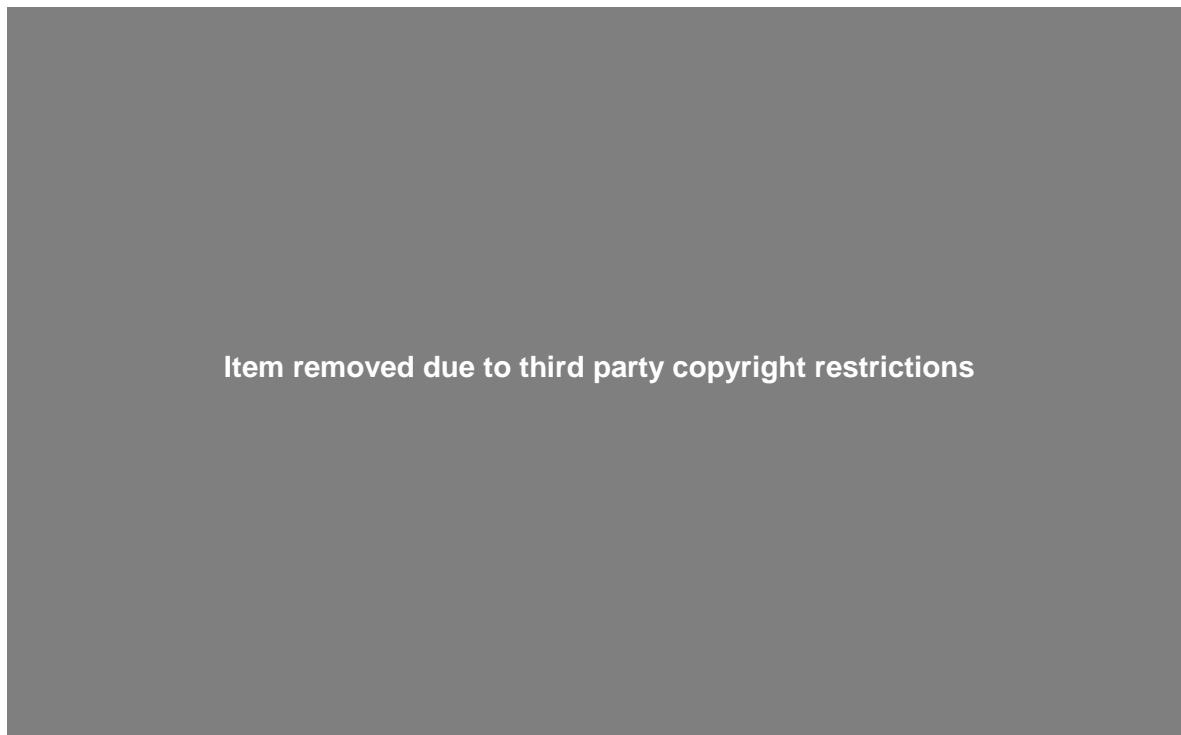

Fig. 8.1
The graph in **Fig. 8.1** shows the concentration of some greenhouse gases in the atmosphere before the Kyoto Protocol was introduced.
- (i) Which statements about the data in **Fig. 8.1** are **true** and which are **false**?
Use the graph in **Fig. 8.1** to explain your answer.